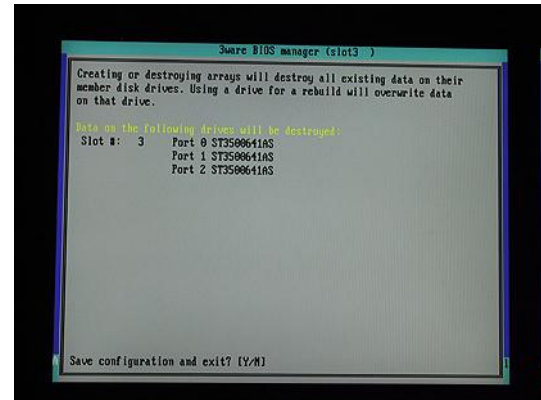

Figure 3-21
- 16) You will be presented with a warning screen as shown in Figure 3-21. Press the Y (yes) key in order to establish your array and exit the 3ware BIOS setup utility. The system will automatically reboot itself in order to make your new RAID array available to the operating system. During the boot process you will see the BIOS report the existence of your new RAID array.